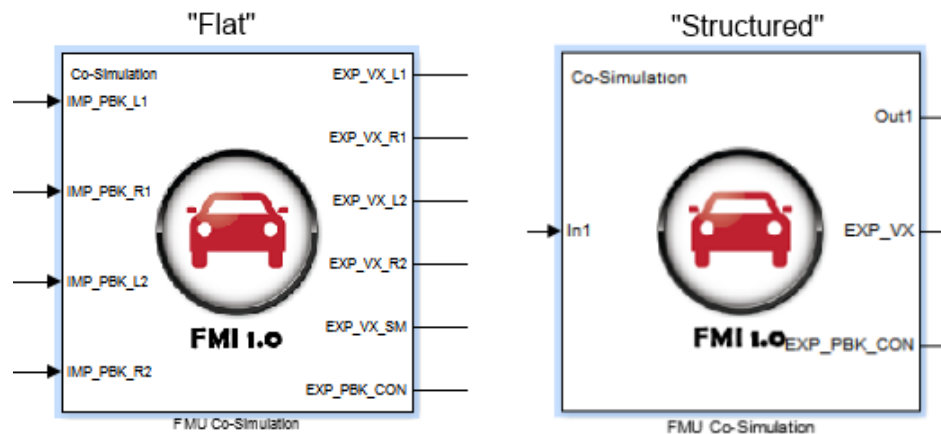

Figure 17. Variable Name Conventions “Flat” and “Structured (Structure)”
- ⑮ Pathname for the FMU file that will be created.
- ⑰ Drop-down control to specify the FMI version. FMI versions 1.0 and 2.0 are supported. The version should match the requirements of the FMI master software tool.
- ⑳ Drop-down control to specify a naming convention: “Flat,” “Structured (Array),” or “Structured (Structure).” The differences between the three depend on the FMU master software. In a Simulink interface, the three options relate the import/output “signals” to “ports” as follows:
- Flat: each import/export variable is represented with a separate port with one signal (see the “Flat” example in Figure 17).
- Structured (Structure): the import and export variables are organized into multiple ports, where each port can handle one or more signals (see the “Structured” example in Figure 17).
- ⑳ Checkbox to create the FMU to run on the Windows system environment.